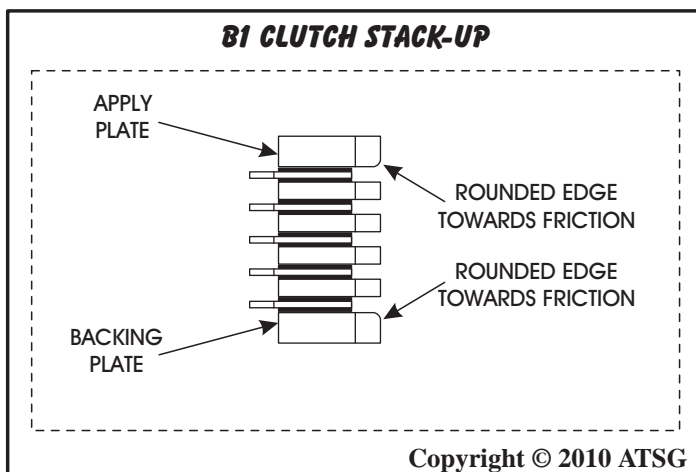
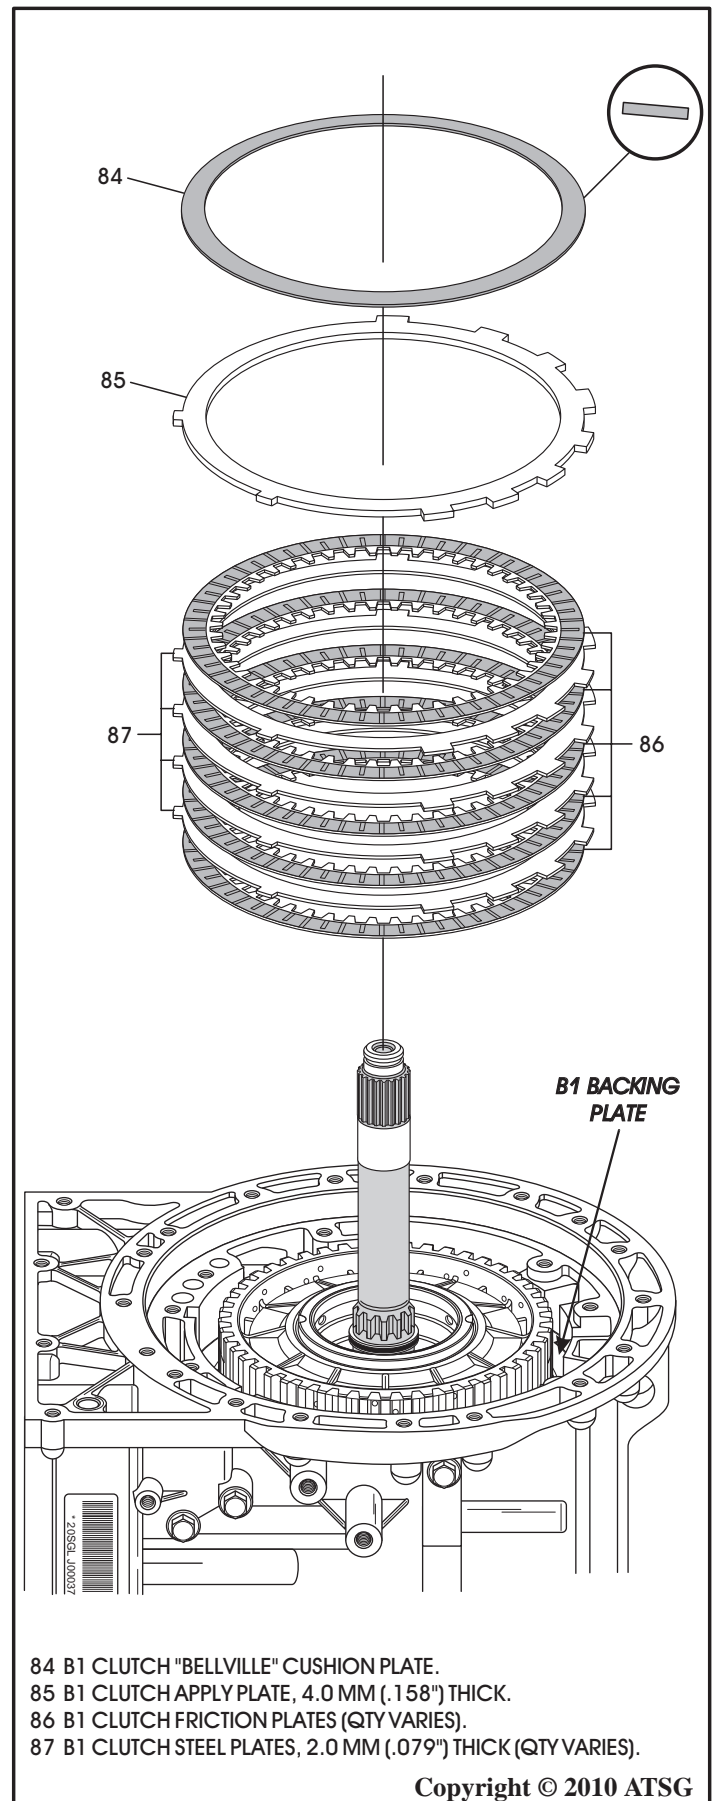

Figure 218
Figure 219
38. Install B1 clutch plates beginning with a friction plate and alternating with steel plates, as shown in Figure 219, until you have the proper amount installed as quantity may vary.
39. Install B1 apply plate, as shown in Figure 219, with the "rounded" edge facing down toward the last friction, as shown in Figure 218.
40. Install the B1 "bellville" style cushion plate in the direction shown in Figure 219.